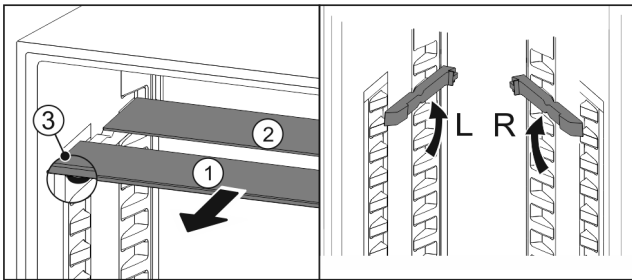

Fig. 71
- ▶ Pull the glass panels out Fig. 71 (1) from the front, one at a time.
- ▷ The glass panel Fig. 71 (1) and trim strip are at the front.
- ▷ The stops Fig. 71 (3) point down.